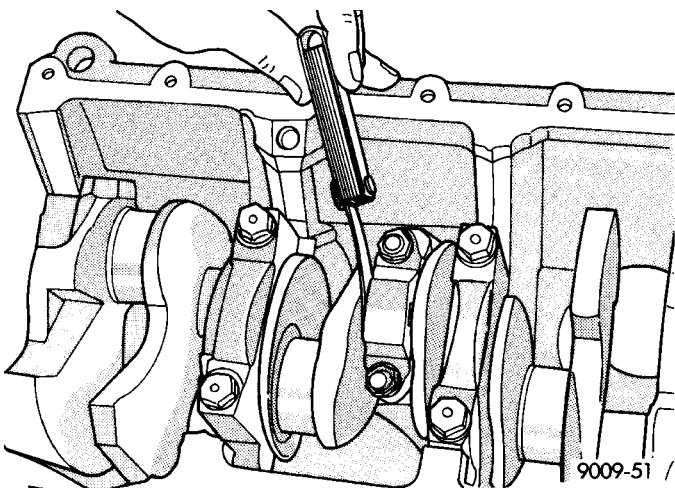

Fig. 53 Checking Connecting Rod Side Clearance
(1) Before installing the nuts the threads should be oiled with engine oil.
(2) Install nuts finger tight on each bolt then alternately torque each nut to assemble the cap properly.
(3) Tighten the nuts to 54 N·m PLUS 1/4 turn (40 ft. lbs. PLUS 1/4 turn).
(4) Using a feeler gauge, check connecting rod side clearance (Fig. 53). Refer to Engine Specifications (Refer to 9 - ENGINE - SPECIFICATIONS).